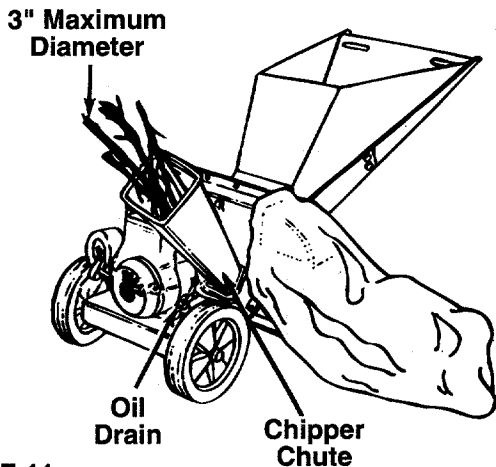

**FIGURE 10.**
**RELEASE BAR**—Used to release the hopper when raising or lowering. See figure 10.
- To lower the hopper assembly, use one hand to grasp the handle at the top of the hopper assembly and lift slightly. Pull up on the release bar, and lower the hopper assembly to the ground. Release the bar. See figure 10.